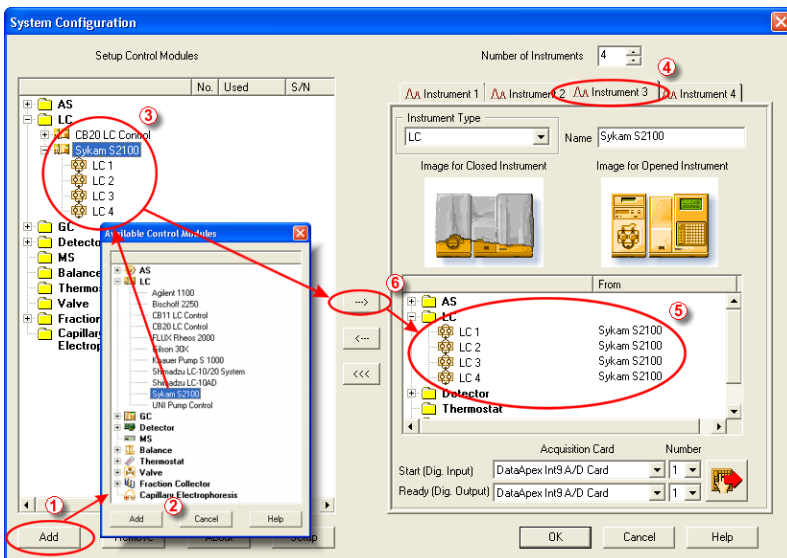

Fig 5: System Configuration
- In the **System Configuration** dialog press the **Add** button (① on Fig 5) to invoke the **Available Control Modules** dialog.
- Select the **Sykam S2100** in the **LC** section and press the **Add** (② on Fig 5) button.